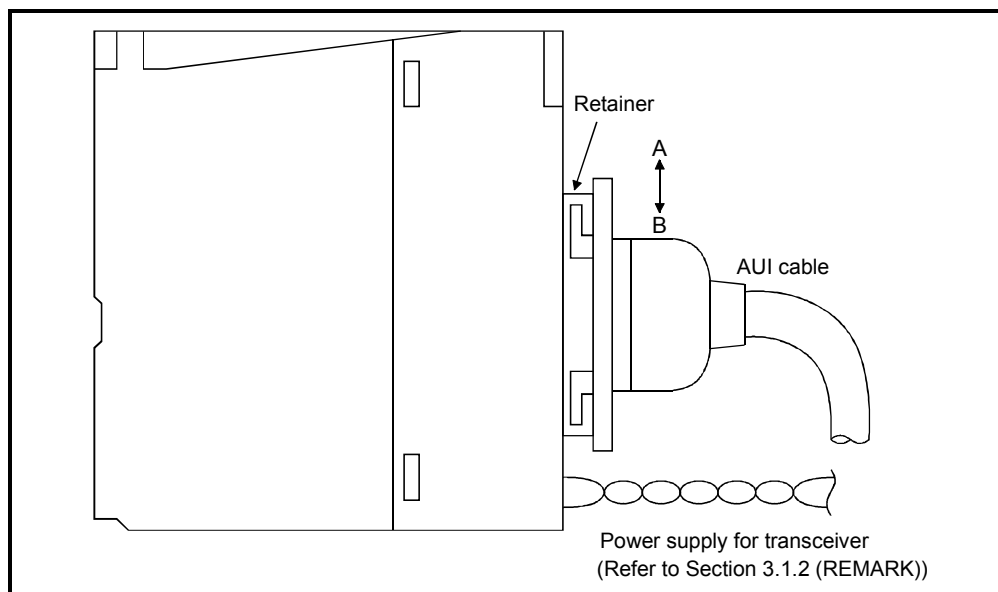

Fig. 5.1 Diagram of AUI cable connection
- (Step 1) Slide the retainer in the direction of B shown in Fig. 5.1
- (Step 3) Slide the retainer in the direction of A shown in Fig. 5.1
- (1) When connecting to the network using 10BASE5 and countermeasures against noise and high-frequency waves are required for the installation environment of the FL-net module, attaching a ferrite core to the transceiver side of the AUI cable is often effective.